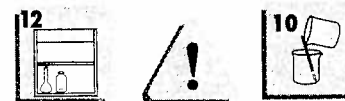

Figure 4.2 Use plastic wrap to cover the developing chamber.
- 1. Developing Chamber.** Obtain a 600-mL beaker and enough plastic wrap (e.g., Saran Wrap®) for a cover (Figure 4.2). In the fume hood, prepare 10 mL of an eluting solution that consists of 9 mL of acetone and 1 mL of 6 M HCl. (**Caution:** Acetone is flammable; extinguish all flames; HCl is corrosive.) Pour this eluent into the middle of the beaker using a stirring rod; be careful not to wet the sides of the beaker. The depth of the eluent in the beaker should be 0.75–1.25 cm but less than 1.5 cm. Cover the beaker with the plastic wrap for about 10 minutes.⁵ Hereafter, this apparatus is called the **developing chamber**.